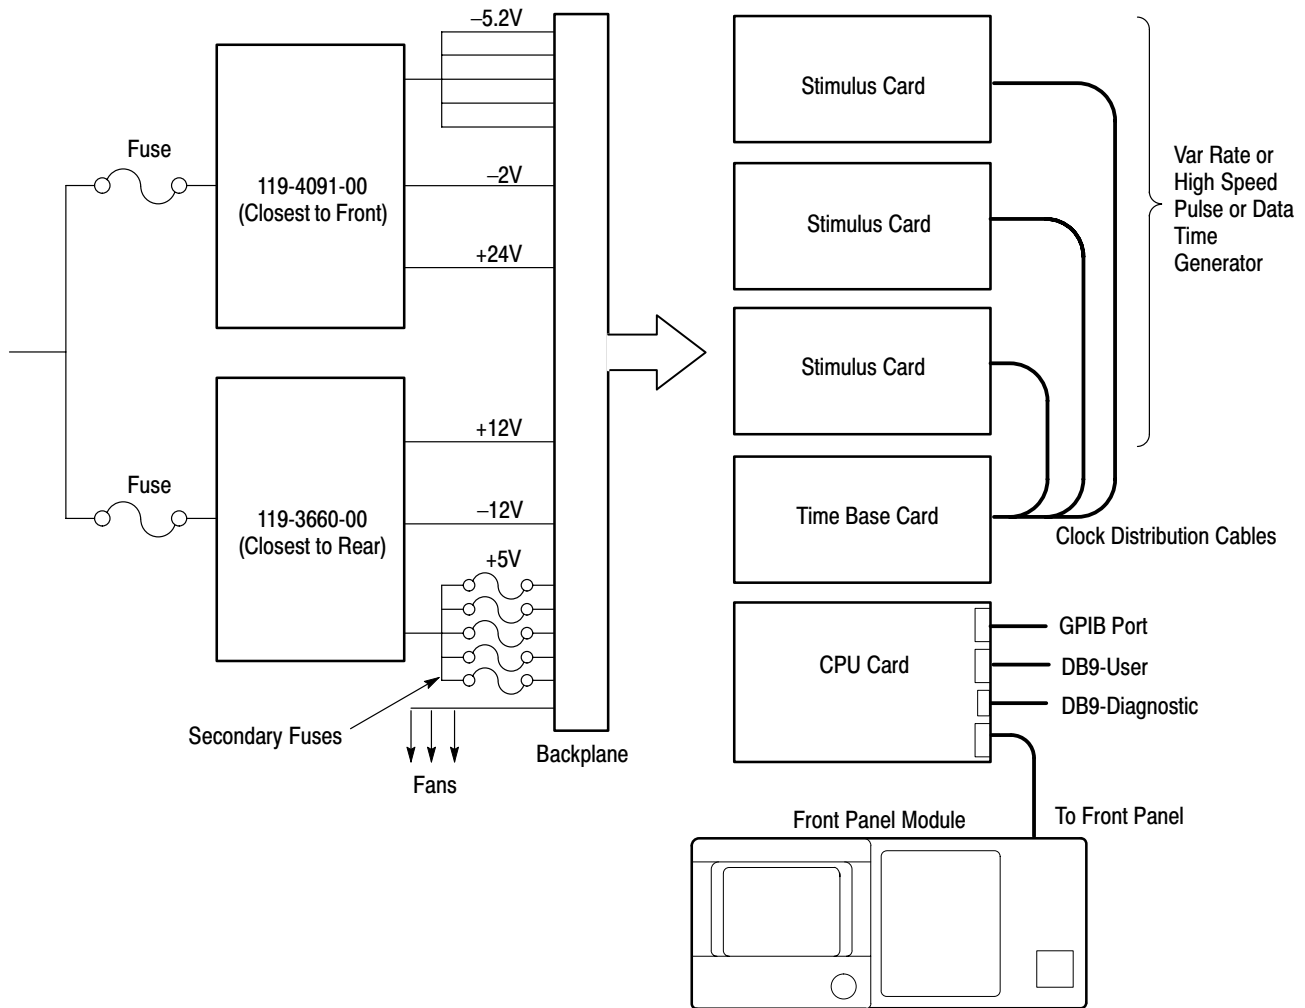

Figure 2: Module block and interconnection diagram
2. CPU is located in the bottom card slot. See Figure 2, for card location.
1. Push the CPU card into the appropriate slot through in the mainframe. Refer to the block diagram (see Figure 2 on page 6) to identify the proper card position in the rack. Secure the card with two screws, one on either end of the card front panel.